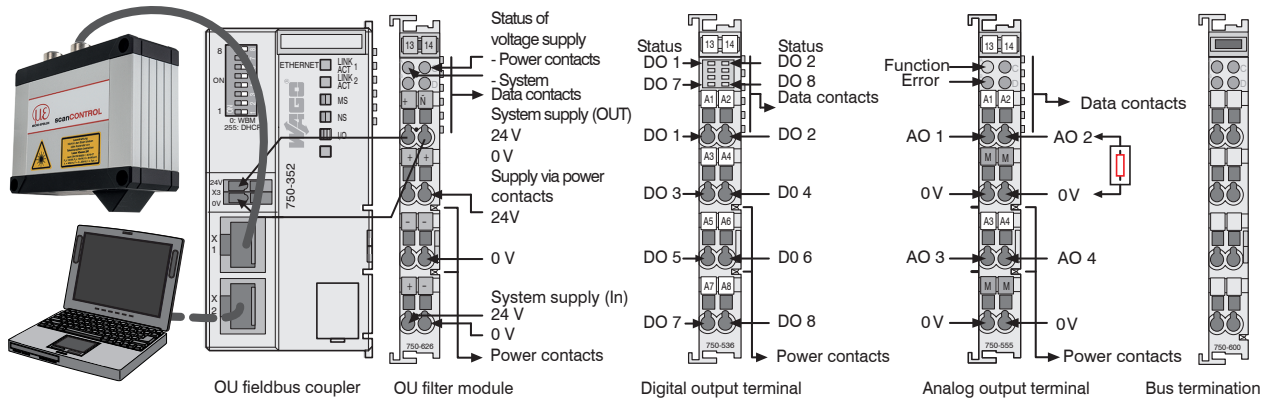

Fig. 38 Example configuration Ethernet with analog and digital output module
► Terminate the bus with the bus termination, see Fig. 38.